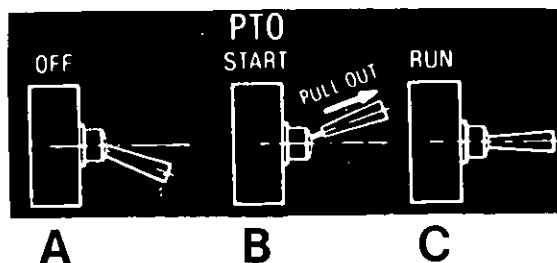

FIGURE 11.
2. Flip the toggle switch to the "RUN" position. See figure 11.